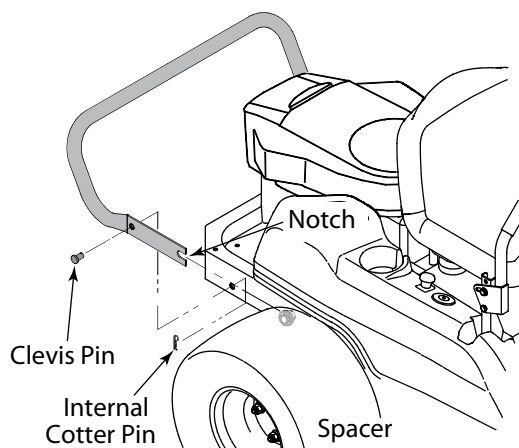

Figure 3-4
- While supporting the rear bumper, cut the cable tie fastening the bumper to the engine lift bracket, and remove the clevis pins from each side. See Figure 3-4.
- Remove the bumper and reposition to align the notch at each end of the bumper with the spacer on each side of the frame. Slide the bumper notches onto the spacers. Refer to Figure 3-4.